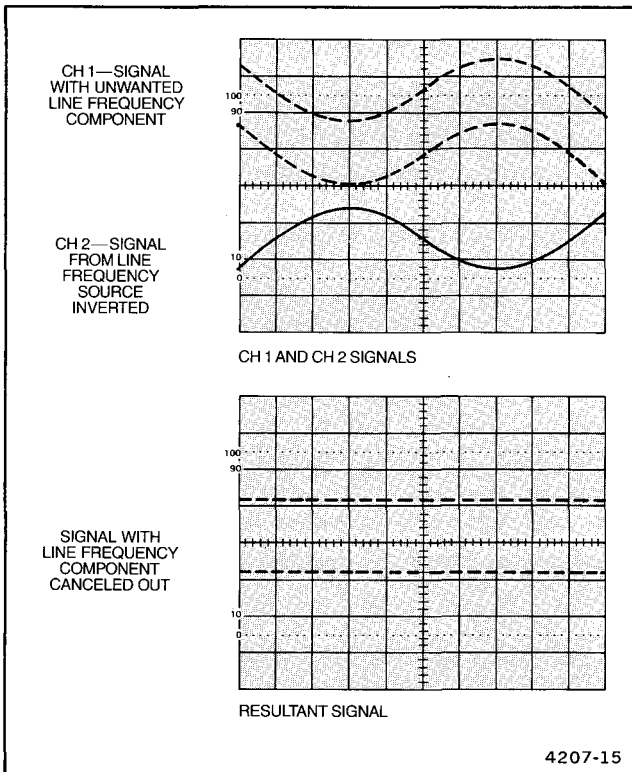

Figure 3-3. Common-mode rejection.
4. Adjust the CH 2 VOLTS/DIV switch and CH 2 VOLTS/DIV variable control so that the Channel 2 display is approximately the same amplitude as the undesired portion of the Channel 1 display (see Figure 3-3 top).
5. Now set the middle and right VERTICAL MODE switches to CH 2 INVERT and ADD. Slightly readjust the CH 2 VOLTS/DIV variable control for maximum cancellation of the undesired signal component (Figure 3-3 bottom).